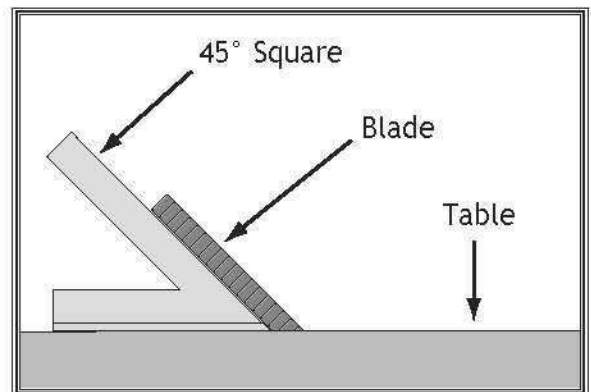

Figure 102. Checking blade at 45°.
3. Place a 45° square against table and blade so it contacts blade evenly from bottom to top, as shown in **Figure 102**. Make sure a blade tooth does not obstruct placement of square.